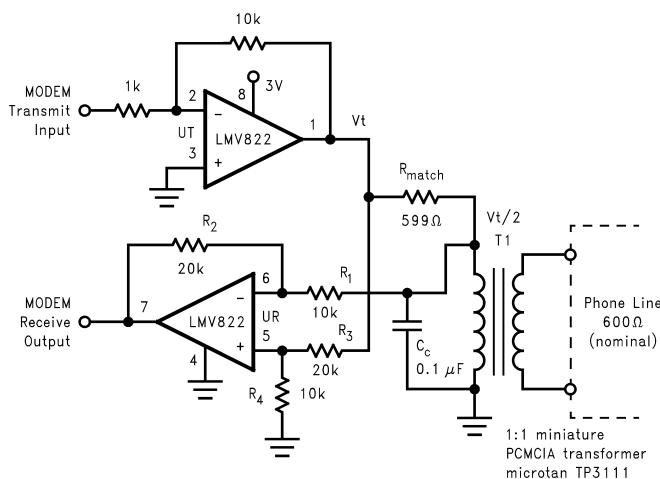

Figure 38. Telephone-line Transceiver for a PCMCIA Modem Card
The telephone-line transceiver of Figure 38 provides a full-duplexed connection through a PCMCIA, miniature transformer. The differential configuration of receiver portion (UR), cancels reception from the transmitter portion (UT). Note that the input signals for the differential configuration of UR, are the transmit voltage ( $V_T$ ) and  $V_T/2$ . This is because  $R_{match}$  is chosen to match the coupled telephone-line impedance; therefore dividing  $V_T$  by two (assuming  $R_1 \gg R_{match}$ ). The differential configuration of UR has its resistors chosen to cancel the  $V_T$  and  $V_T/2$  inputs according to the following equation: